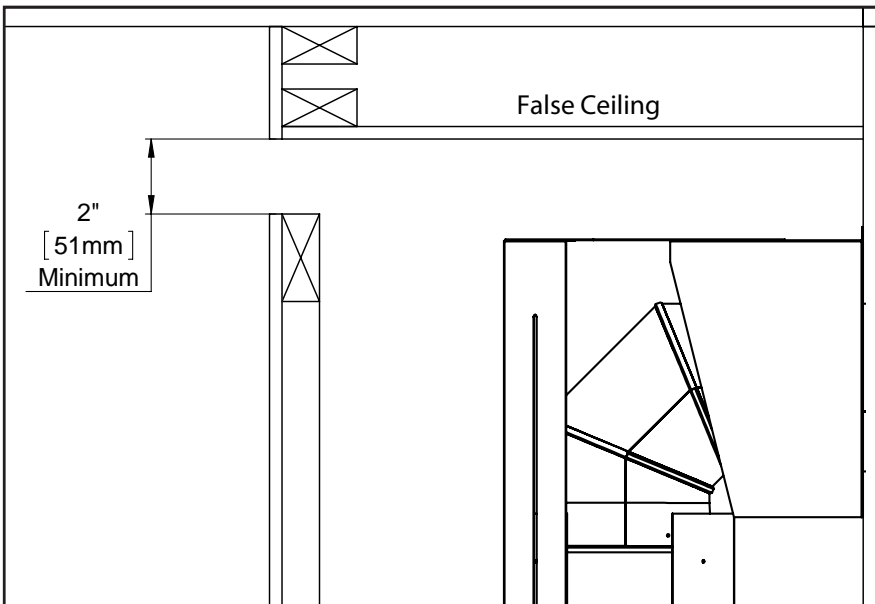
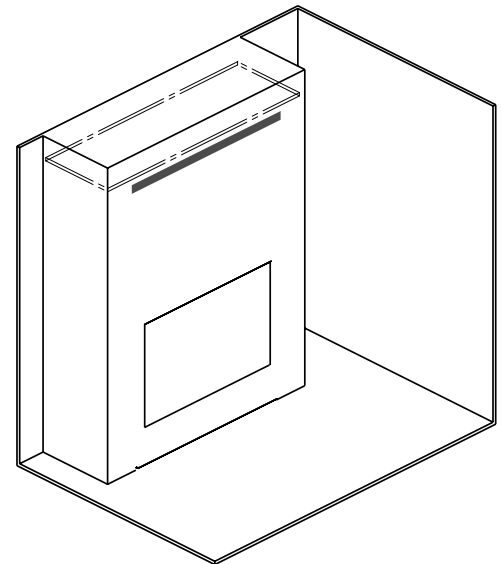
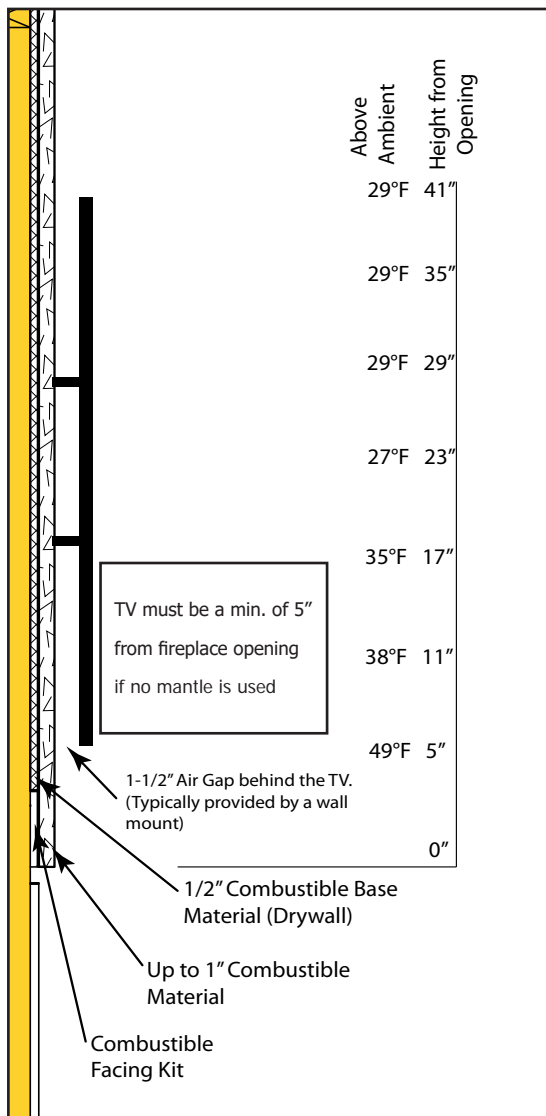
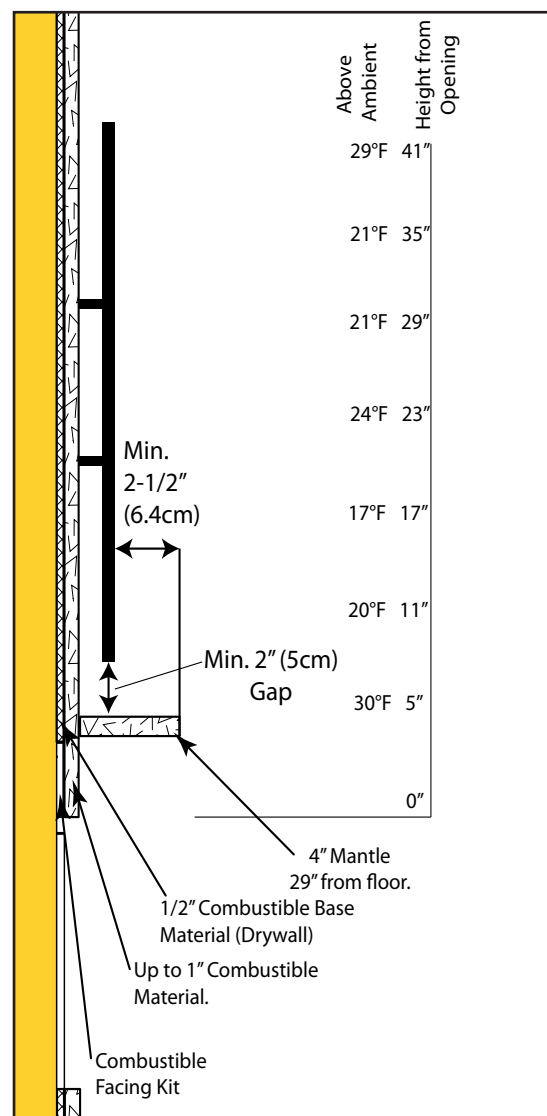

Figure 26: False Ceiling
Figure 27: False Ceiling Iso View
Figure 31: CSS TV Clearances
Figure 32: CSS TV Clearances
If your ceiling dimension is greater than the minimum (figure 27) You may want the CSS Air discharge lower on the wall. To do this a false ceiling is required to properly evacuate the heat from the chase (figure 26).
**During testing temperatures did not exceed 121°F (49°C)** midway up the front wall (Figure 31 & Figure 32). There is no guarantee that these temperatures will not harm the longevity of your TV. Make sure to consult your TV manufacturer's specifications to find the maximum allowable operating temperature. Since every home and installation is unique, temperatures should be verified at the time of install if possible. If desired, front wall temperatures can be lowered to 104°F (40°C) with the use of a mantle (Figure 26). Refer to page 24 for revised mantle clearances. A TV should not be installed if temperatures exceed the manufacturers maximum allowable temperature.